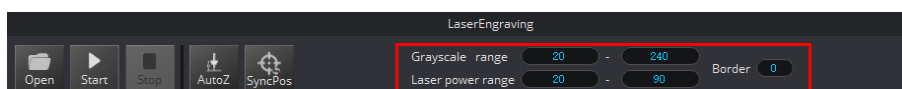

Figure 5.84 Set the grayscale range, laser power range, and border
Step 3 Set the **Grayscale range**, **Laser power range**, and **Border**, as shown in Figure 5.84. For details, see Table 5.11.